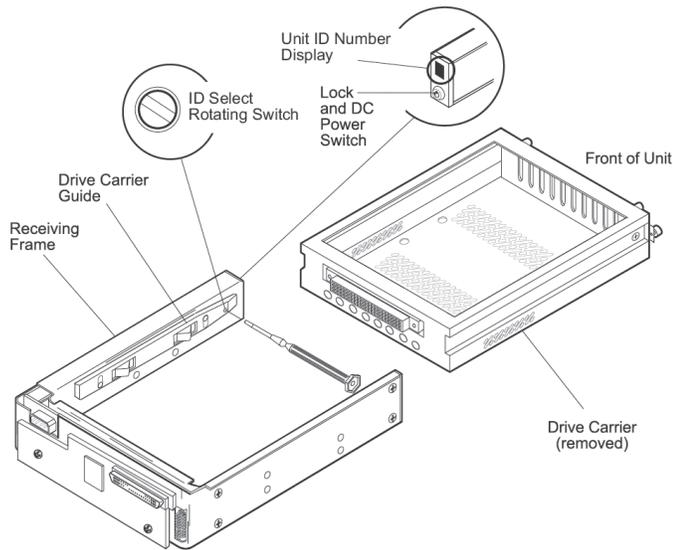

Figure 3: Unit ID Select Switch Location
**Remote Unit ID Selection:** Pins 1-8 are provided for remote unit ID selection for the computer system or expansion chassis. Remote ID selection requires that the unit ID switch located on the inside of the receiving frame be set to "0" (onboard ID selection is set with a switch located on the inside of the receiving frame; see figure 3).